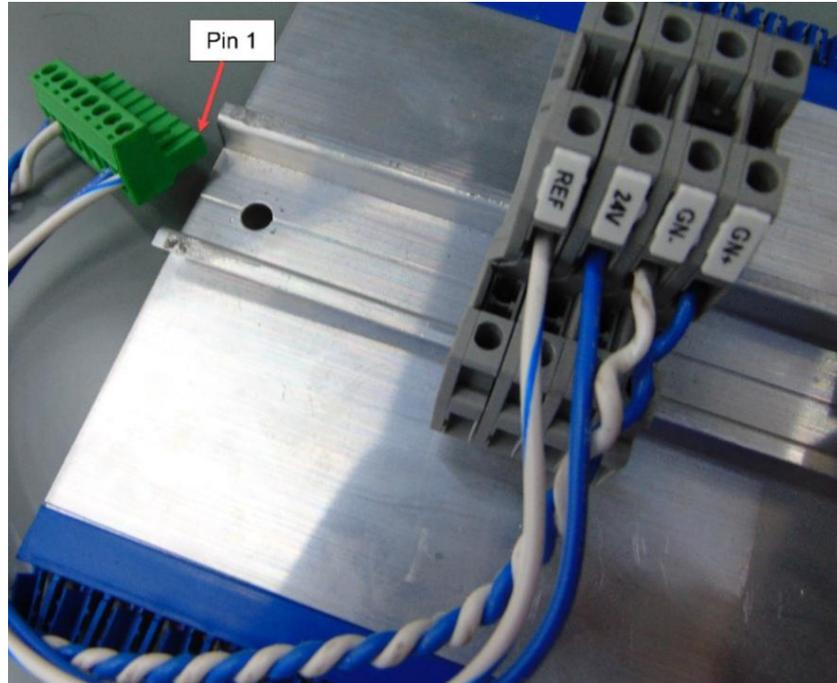

Figure 2: DAD Connector Cable
- **GN+, GN-, G24, and REF** must be connected as shown in Figure 2 to establish communication with the group network.